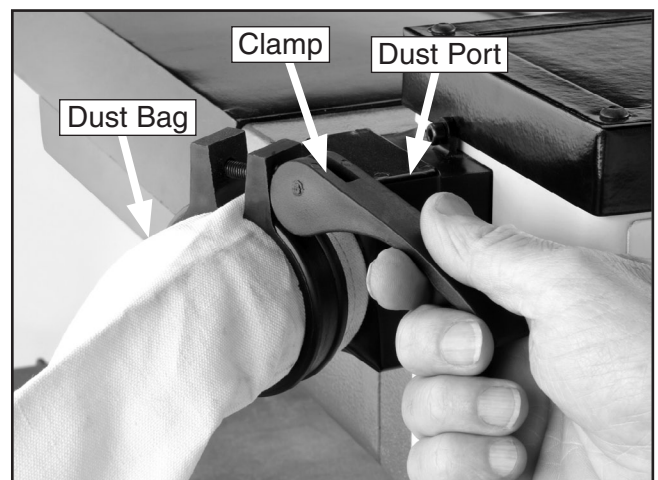

Figure 15. Installing dust bag and clamp.
2. Slide the dust hose clamp over the dust bag, insert the bag and clamp over the dust port (**Figure 15**), and secure with the clamp handle. **DO NOT overtighten the clamping adjustment or it may break!**